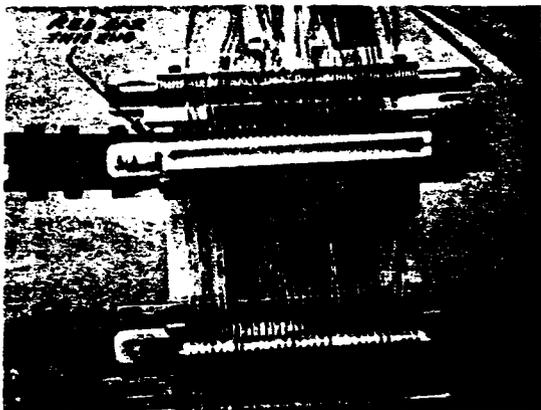

FIG. 29 PLACING RECEPTACLE HOUSING ON MANDREL (PAR. 4.318)
4.318 Select the appropriate receptacle housing and note the red alignment bar on one end. Place the housing over the upper cable mandrel with the red alignment bar down and pointing to the left toward the R-4861 hinge (same positioning as the mandrel notch). The red alignment bar and the mandrel notch correlate with the number one wire position. See Fig. 29.